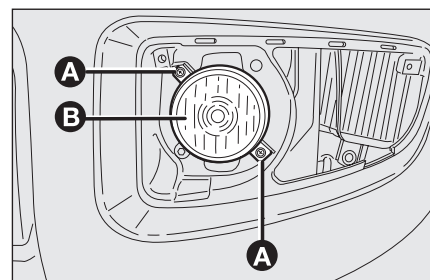

fig. 19
- ☐ loosen the fastening screws **A**-fig. 19 and remove the lens **B**;